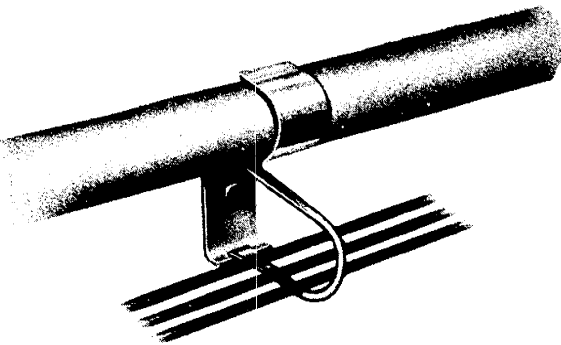

Fig. 7 — Drop Wire and Cable
1. Use rings installed with cable clamps as shown in Fig. 7.